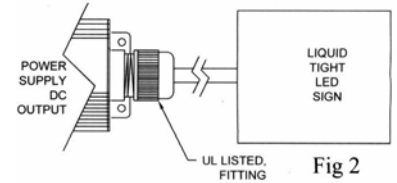

Fig 2
- Conduit fittings shall be used :UL Listed Heyco LTF1/2, AVC industrial FGA13-08 or equivalent (Fig2,3)
- DC output wires splicing must be done inside of liquid tight enclosure or using liquid tight terminals and leads are rated and marked PLTC and CL3r and “Sun Resistant” (Fig2,3).